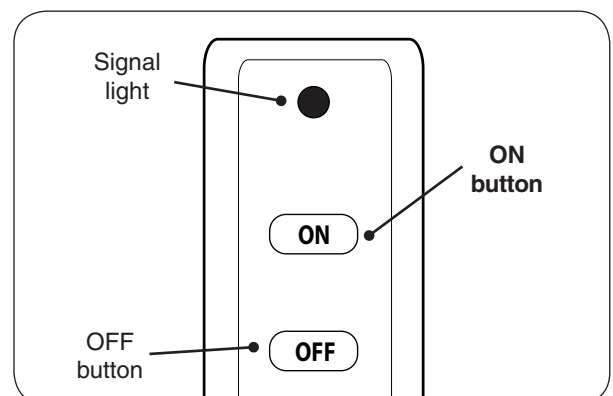

Fig. 27-3 Remote transmitter detail
4. Locate the remote transmitter and press the **ON** button (see Fig. 27-3). The ignition sequence will begin.